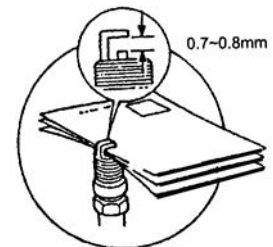

Figure 10
- 3) Measure the electrodes clearance. See Fig.10. The spark plug electrode clearance should be between 0.7-0.8mm. If the clearance exceeds 0.8mm, replace the spark plug with an LD F7TC or equivalent (NGK BP6ES, Champion N9Y).